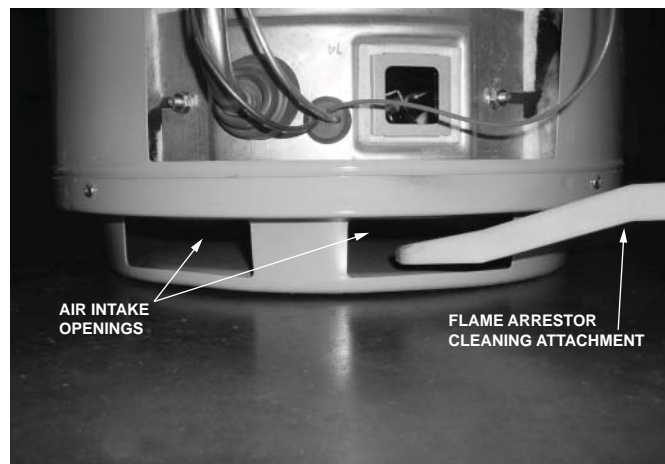

Figure 3
3. Using the flame arrestor cleaning attachment, vacuum all dust and other particles from beneath the heater, see Figure 3.
4. To clean the bottom of the flame arrestor, turn the flame arrestor cleaning attachment over and insert it through the air intake opening at the base of the heater, and use a gentle sweeping motion to clean the entire base, see Figure 3.